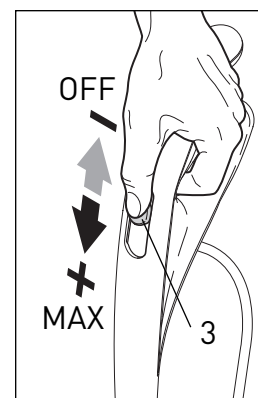

Figure 5
4. Slide the On/OFF switch (3) downward toward the MAX position - see figure 5.
Operating the Machine - Figures 5 & 6
You may adjust the suction control with the suction control slider (3) as you vacuum different surfaces or when using the accessory tools. Slide the button upward for less suction or downward for more suction - see figure 5
You may adjust the suction control with the suction control slider (#3, figure 5) as you vacuum different surfaces or when using the accessory tools. For optimal cleaning and brushing, operate the machine at the maximum suction power setting and push the power head slowly over the carpet.